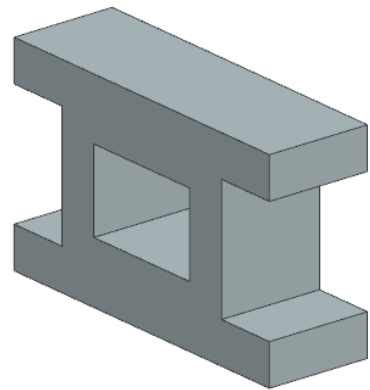

Figure 2-67 Extruded model for Tutorial 1
7. Press the Ctrl+B keys; the **Class Selection** dialog box is displayed. Select the sketch of the extruded feature to hide it. Next, choose the **OK** button from the dialog box. Figure 2-67 shows the extruded feature after hiding its sketch.